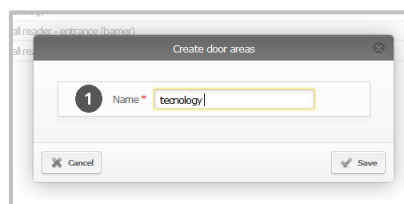

Figure 76: Creating new door areas
- Specify the **Name** of the door area ❶ (Figure 76: Creating new door areas).